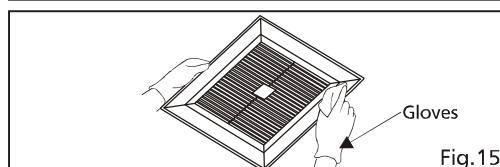

Fig.15
2. Clean grille. (Don't put into hot water. Use non-abrasive kitchen detergent, wipe dry with clean cloth) (Fig. 15)